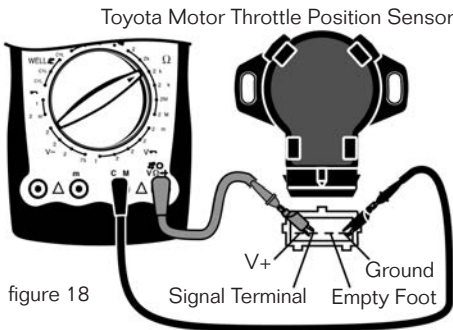

figure 18
- (1) The same as in the resistance testing method.
- (2) When the general temperature of a heating sensor rises, its resistance will drop. The thermal resistance of the temperature sensor of the automotive engine is generally less than 300 Ω.
3. Position Sensor (see figure 18)